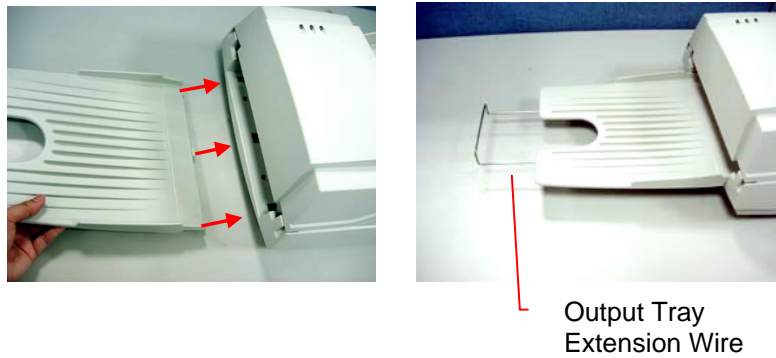

Figure 2-4 Install the ADF Output Paper Tray
- i). Hold the output paper tray some 30 degrees aslant as shown in Figure 2-4.